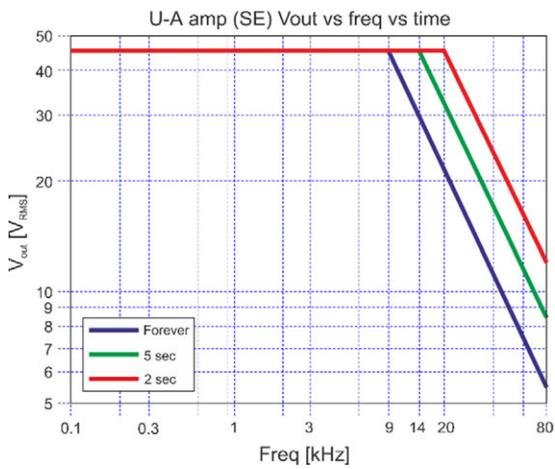

Figure 3-12: Max (SE) Vout vs. frequency vs. time
**HF Protection** - A high frequency protection is implemented in order to protect the amplifier output filter components from overload - refer to *Figure 3-12*. If a high frequency (and high amplitude) signal is present for a longer period, the module will enter HF protection and mute the U-A amplifier output, until the internal protection timing allows the module to re-enable the amplifier.